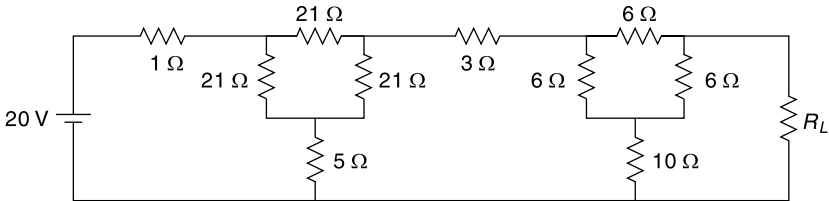

Fig. 4.191
30. Determine the value of R_L for maximum power transfer to the load and determine the load power in the circuit shown in Fig. 4.191. [Ans: 9Ω , 0.694 W]